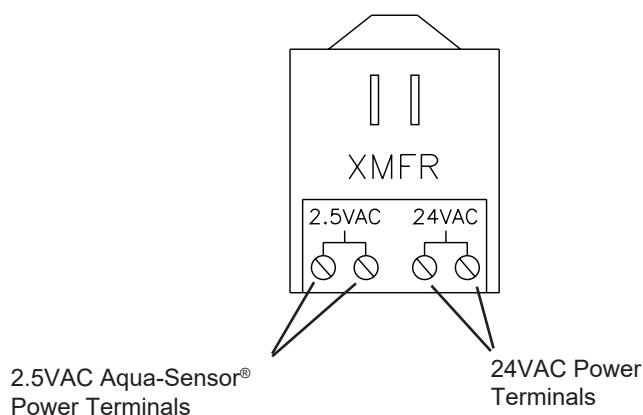
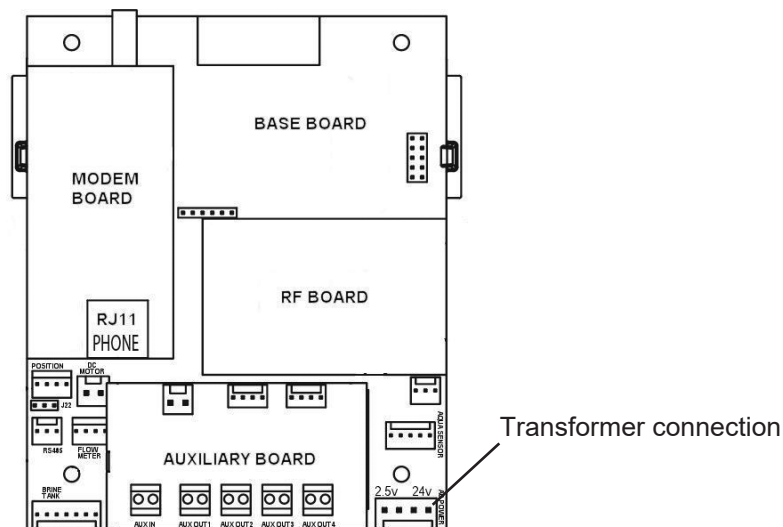

Figure 16. Transformer
Figure 17. GBE circuit board.
1. Connect one wire from the 24V cable to the outermost 24V transformer screw terminal (see Figure 16). The other end of the wire should be connected to one of the 24V terminals on the GBE control circuit board (Figure 17) by way of the white connector.